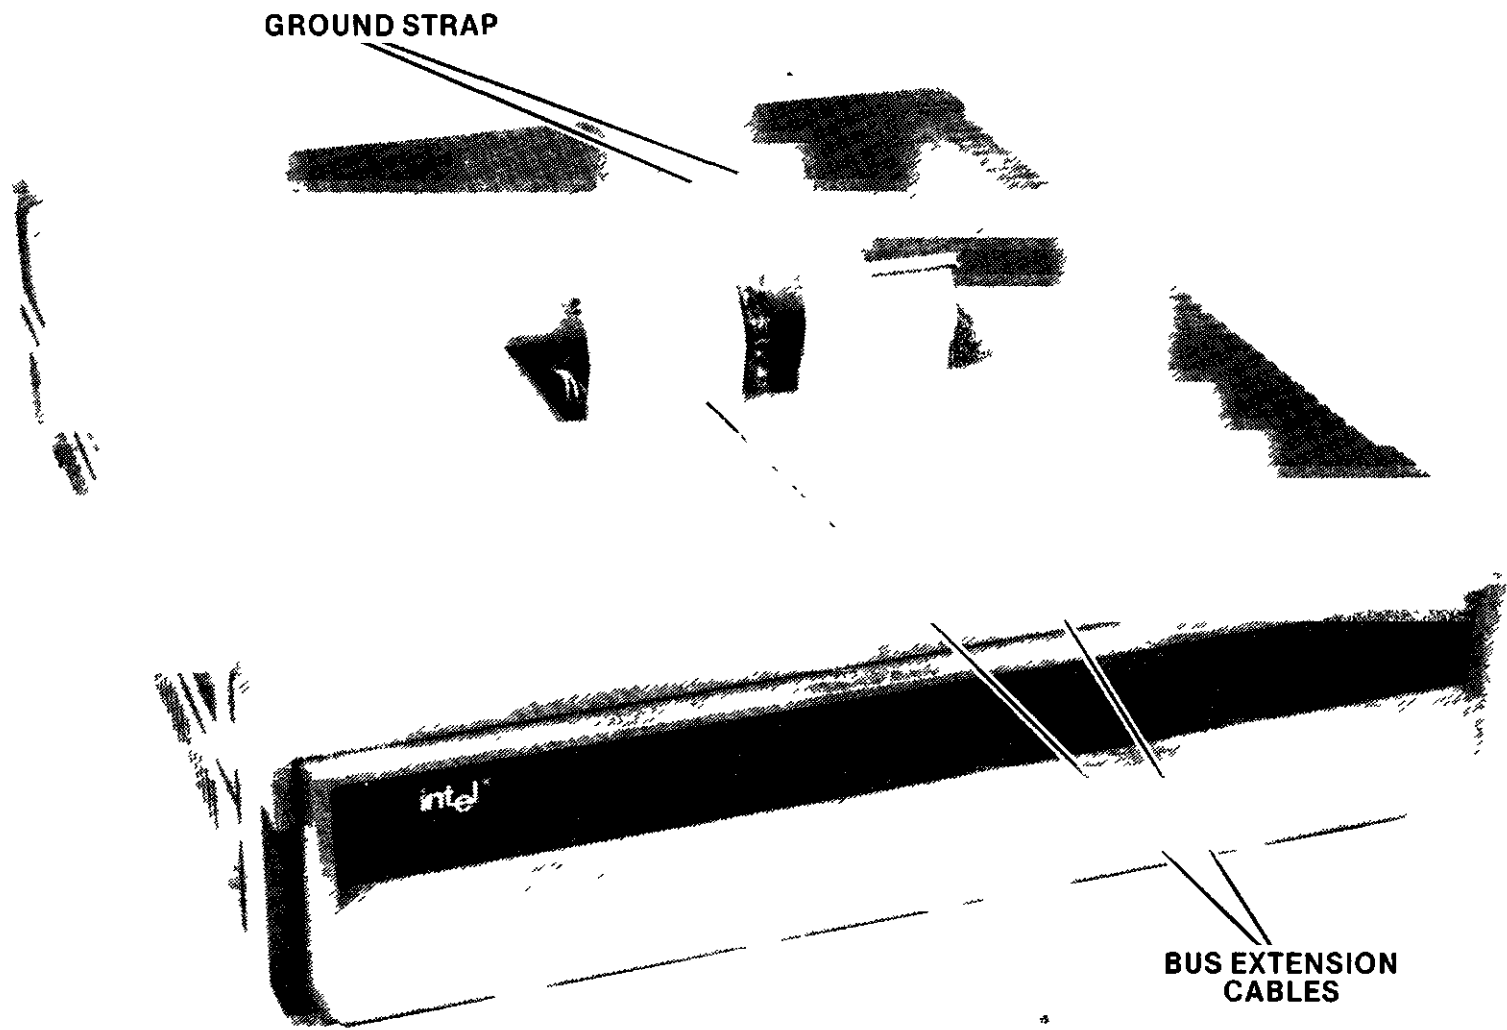

Figure 4-3. Expansion Chassis Cable Port Details
5. Using supplied hardware, install ground strap on expansion chassis as shown in figure 4-3. Connect the two bus extension cables to connectors inside expansion chassis cable port.